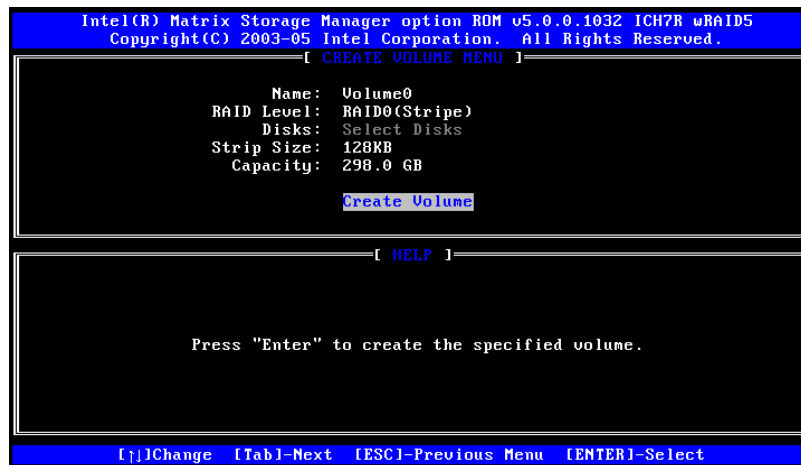

Figure E-6: Create the RAID Volume
Step 6: Create the RAID Volume. Press **ENTER** to create the RAID volume as specified. See Figure E-6.